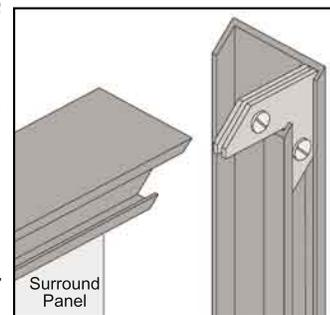
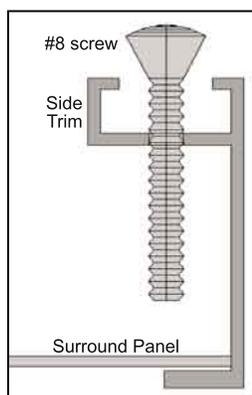

Figure 21: Corner brackets for trim.
Figure 22: Screw to hold the trim against the surround.
1. Attach one side trim to the top trim using a corner bracket (see Figure 21) to secure pieces together. There are two (2) main pieces to each corner bracket. When installing the corner pieces into the trim the "B FACE" sides must face each other and the screw heads are to face out. With the bracket in place and the top and a side trim snug together use a flat head screwdriver to turn the two (2) screws in the bracket in to tighten it into the trim.
2. Slide the two (2) attached trim pieces onto the surround panel.
5. On the side trims there are holes 2" (50 mm) from either end. Using a Phillips screwdriver to place a #8 screw $1\frac{1}{4}$ " long in each hole and tighten (refer to Figure 22). This will keep the trim tight against the surround.